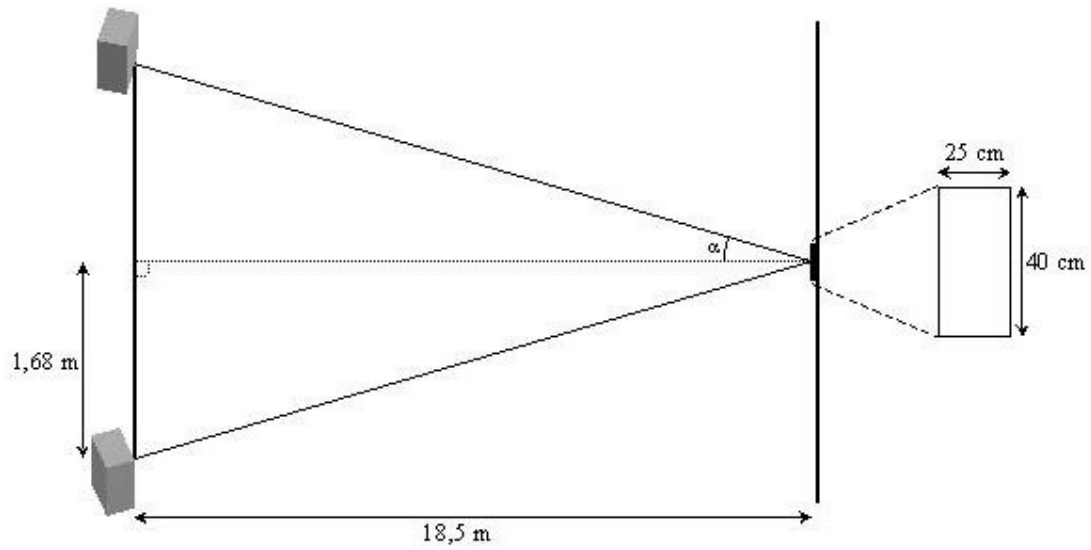

Figure 2. Usage of a passive mirror in the laboratory measurement
9. Calculate the free space loss in the connection when a passive mirror is used (figure 2). The tendon length is 50 m and the frequency is 58 GHz. The attenuation due to the reflection in mirror is 25 dBm.
10. Calculate the received signal power level received in system in figure 2. The system parameters are selected for Nokia MetroHopper radio link.